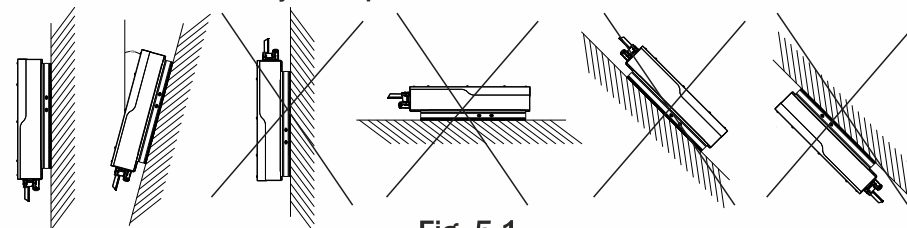

Fig. 5.1
2. Please install the equipment under the guidance of Figure 5.1. Vertical installation on floor level is recommended. Mount vertically or tilted backwards by max. 15°. Never install the inverter tilted forwards, sideways, horizontally or upside down.